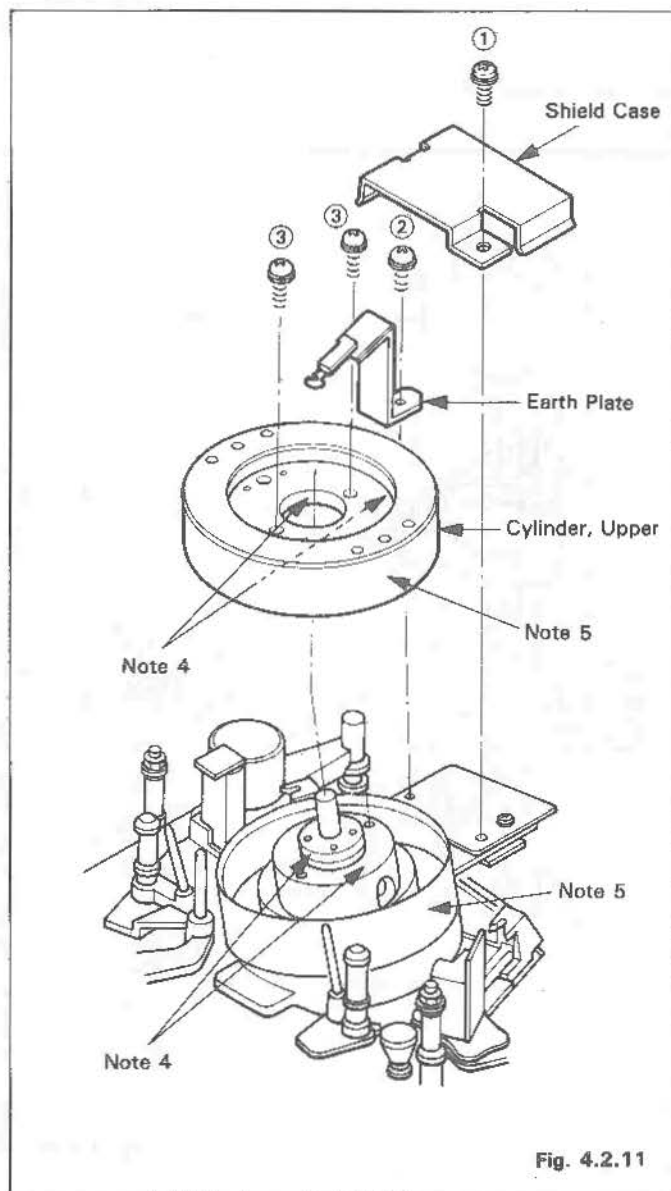

Fig. 4.2.11
3. When installing the cylinder, tighten two screws ③ uniformly to obtain a 5 kg-cm to 6 kg-cm torque value.
4. Prior to reassembling, clean up the contact surface on the upper cylinder with cleaning fluid. (Refer to Fig. 4.2.11)
5. After reassembling the cylinder, clean up the tape transport area with cleaning fluid and chamois. (Refer to Fig. 4.2.11)